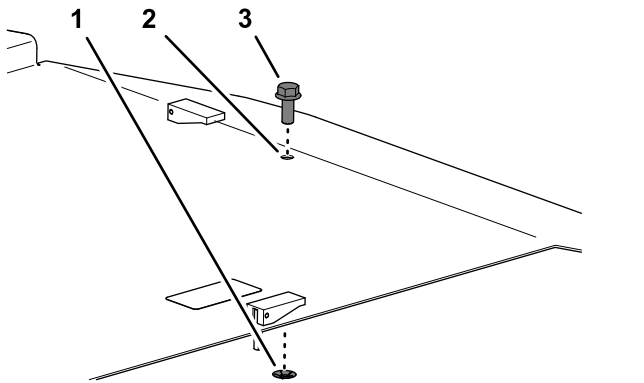

Figure 4
- Remove the push-nut that secures the bolt to the deck cover and remove the bolt from the cover (Figure 4).